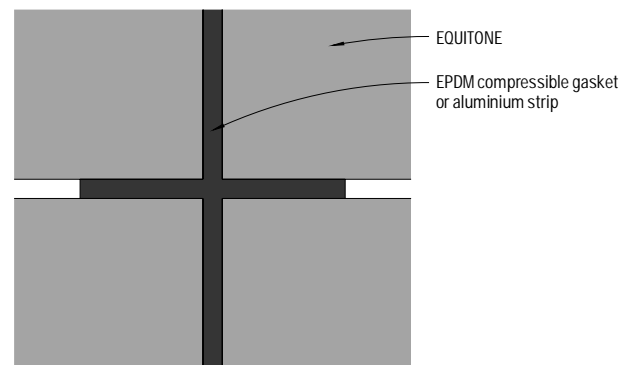

Figure 4: Open horizontal joint junction
- 2) In Figure 4, visible part of the support frame profiles and weather barrier may be coated black with suitable paint.